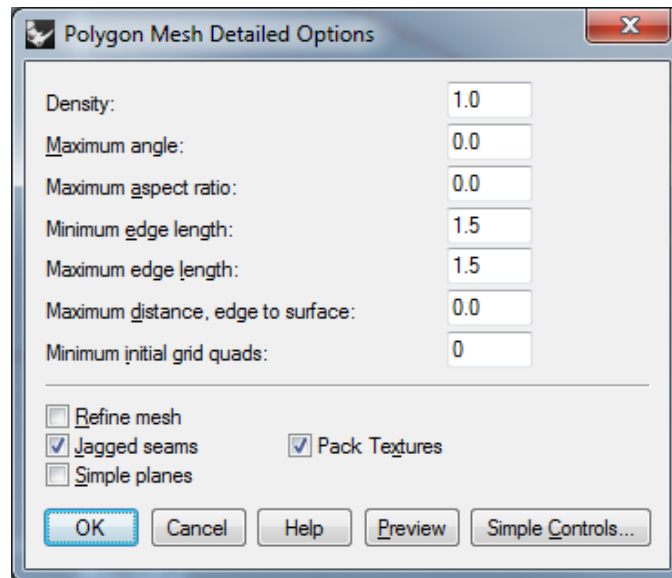

Figure 19: Polygon Meshing Options
- ⊛ Set meshing properties as shown in Figure 19.